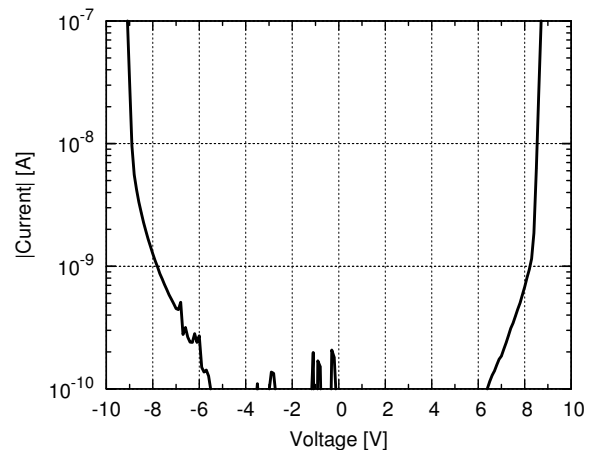

Figure 1: Typical DC characteristic: the current is plotted as absolute value for negative voltages.
Since the DC breakdown voltage of the bidirectional ESD protection diode is approximate ±8 V (Fig. 1), voltage pulses of long duration beyond ±5 V have to be avoided. This holds especially true for DC voltages. Applying a DC voltage exceeding ±5 V has to be absolutely avoided. Transient spikes may cause snapback to about ±6 V.
- Compare the measurement result with Fig. 1. Note that the lower current measurement limit of the SMU is dependent on the vendor and SMU model.